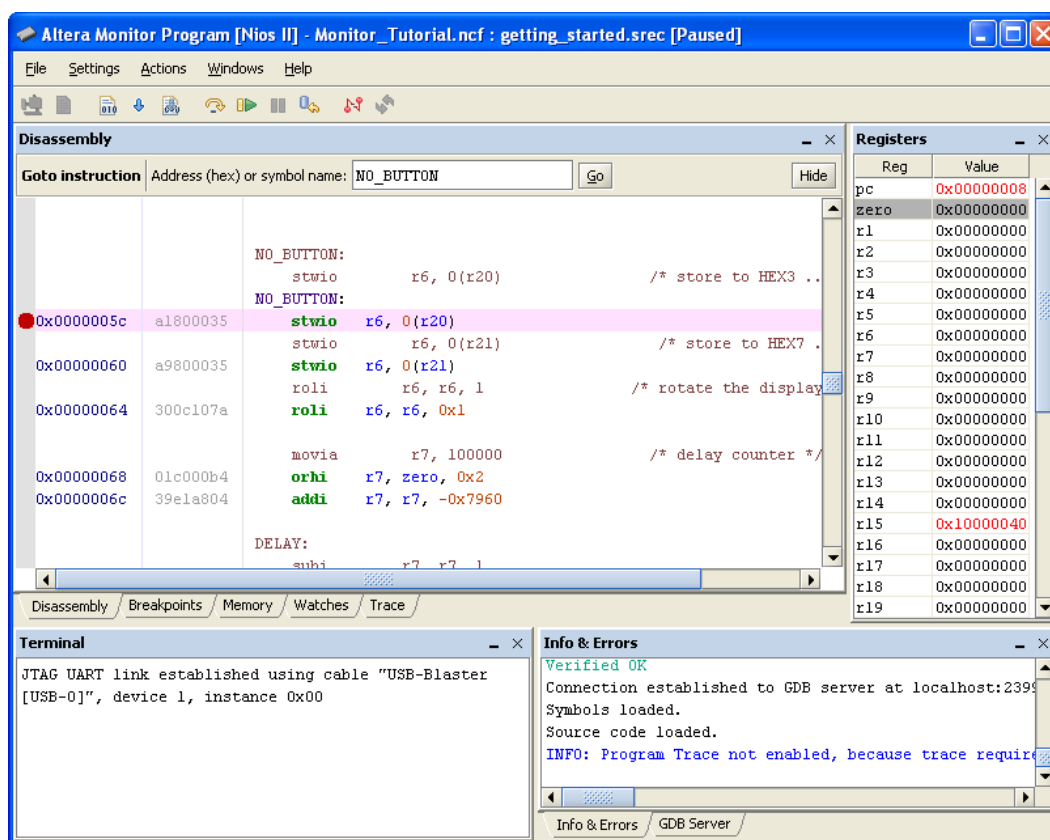

Figure 21. Setting an instruction breakpoint.
2. Click on the gray bar to the left of the address `0000005c` in the Disassembly window. As illustrated in Figure 21 the Monitor Program displays a red dot next to the address to show that an instruction breakpoint has been set. Clicking the same location again removes the breakpoint.